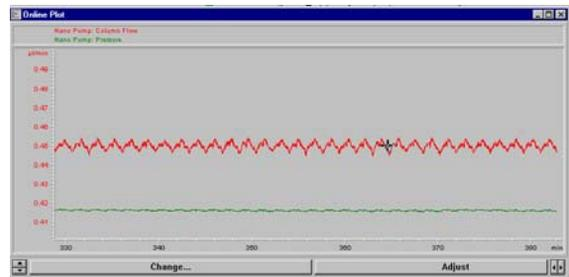

Figure 4 Stability of flow (top) and pressure (bottom)
- Set the flow to 4 µl/min, solvent composition 50/50 A/B. To monitor the flow and pressure at the handheld controller select **Plot>Select>Nano Pump Pressure>More>Nano Pump Flow>More**. Make sure these stabilize at least for 10 minutes before making the next connection. Flow ripple should be less than 15%. Flow and pressure plots should look similar to Figure 4.